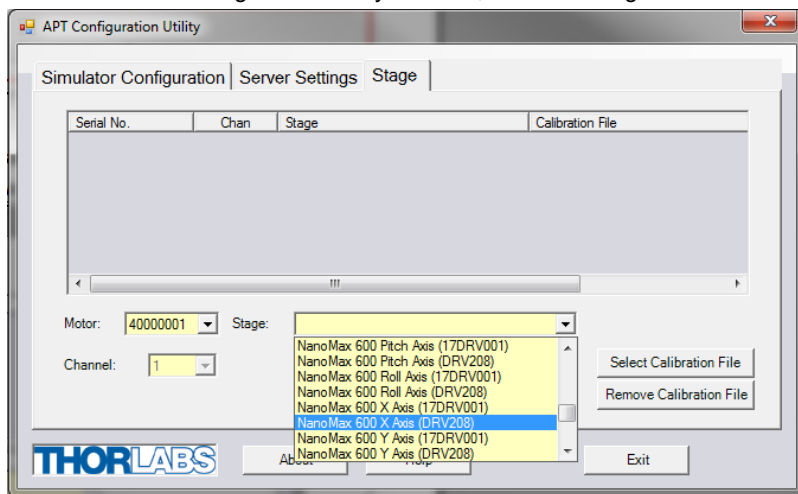

Fig. 3.3 APT Configuration Utility - Stage Tab
- 5) In the 'Stage' field, select your actuator type from the list displayed (e.g. NanoMax 600 X Axis (DRV208)) as shown in Fig. 3.3.